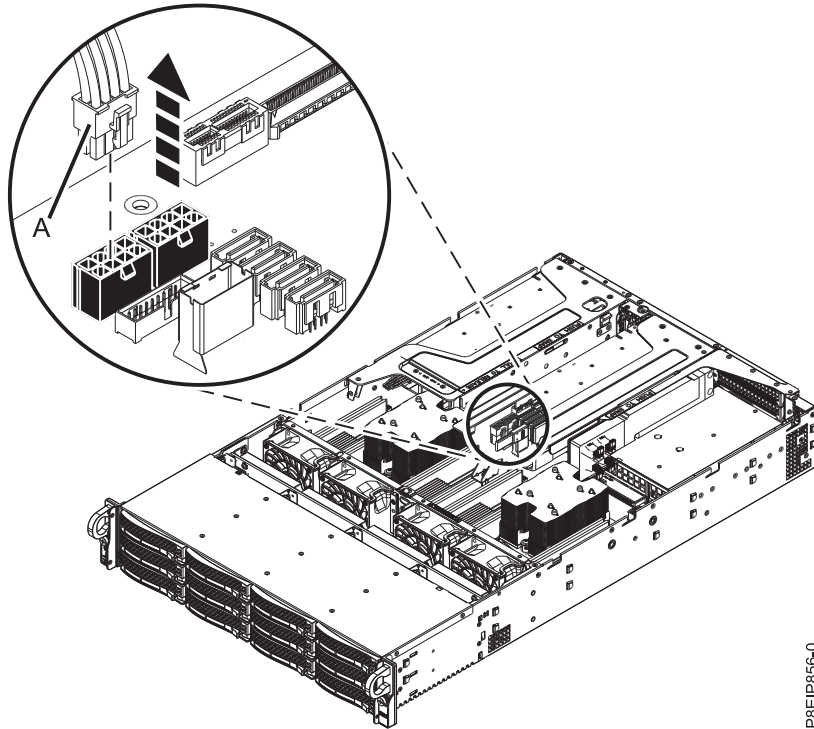

Figure 39. Unplugging the GPU power cable
- a. Retract the retaining pin (A) so the arrow is pointing to the system.
- d. If the riser contains a GPU, unplug the GPU power cable (A) from the system backplane as shown in Figure 39 on page 35. Using your thumb, press the release latch on the connector to remove the cable.